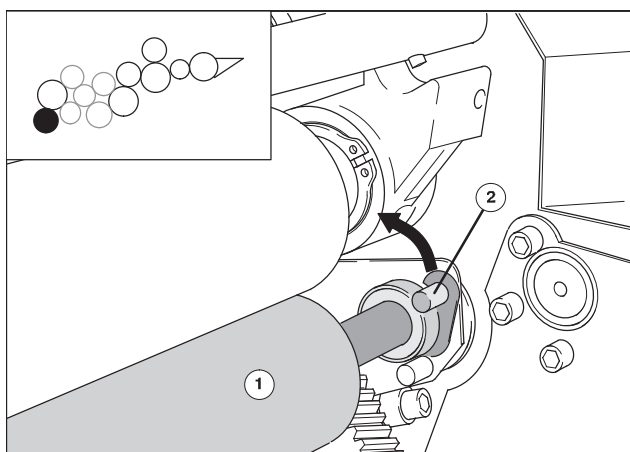

Fig. 32 Remove the 3rd inking form roller, bearing O.S.
2. Pull the lever at the journal box on O.S. (Fig. 32/2) and D.S. upwards.
3. Remove the 3rd plate inking roller (Fig. 32/1).